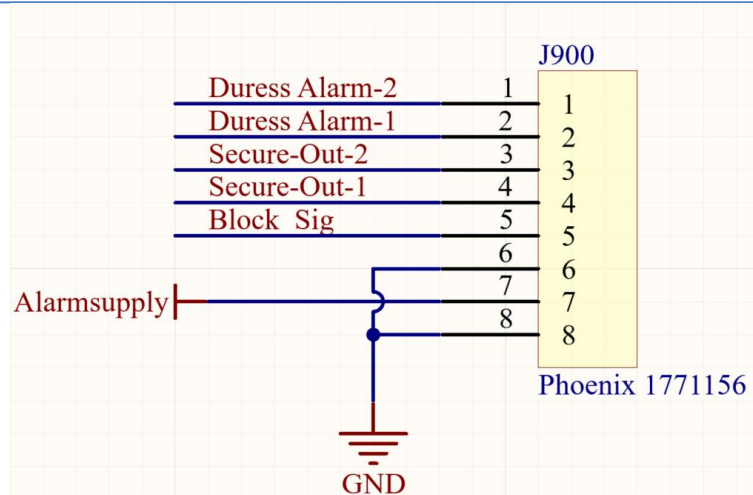

Figure 4 - Assignment of the alarm interface
- Figure 4 - Assignment of the alarm interface 8